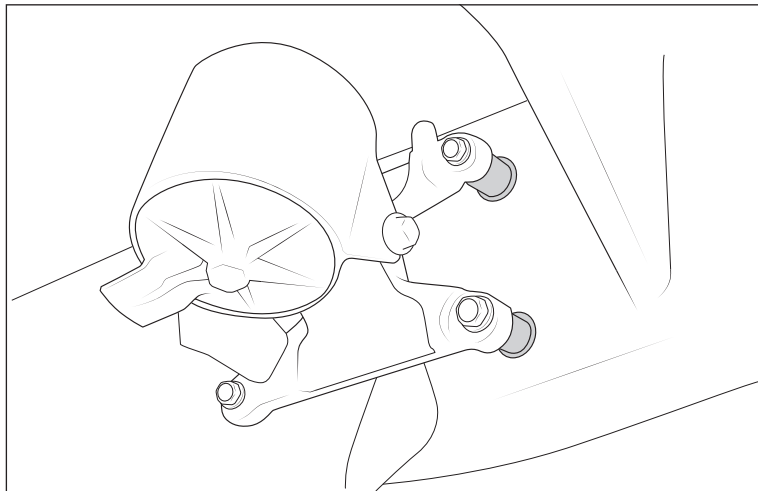

Figure 13
- J. GASOLINE TRUCKS ONLY: Reinstall active vibration dampers over AEV radius arm brackets using supplied spacers and hardware (fig. 13). Torque to 25 ft-lbs.